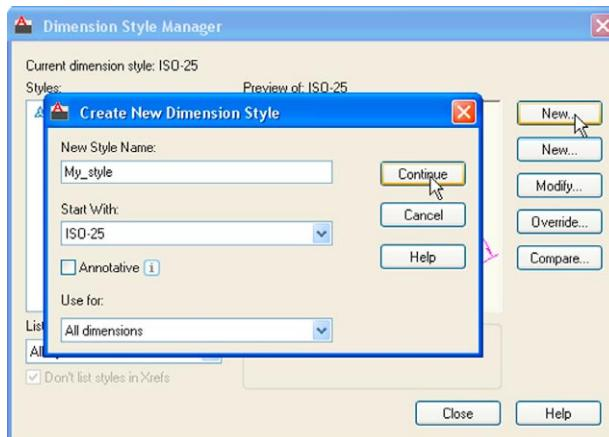

Fig. 4.13 The Create New Dimension Style dialog
8. The **Dimension Styles Manager** dialog reappears showing dimensions, as they will appear in a drawing, in the **Preview of my-style** box. Click the **New...** button. The **Create New Dimension Style** dialog appears (Fig. 4.13).